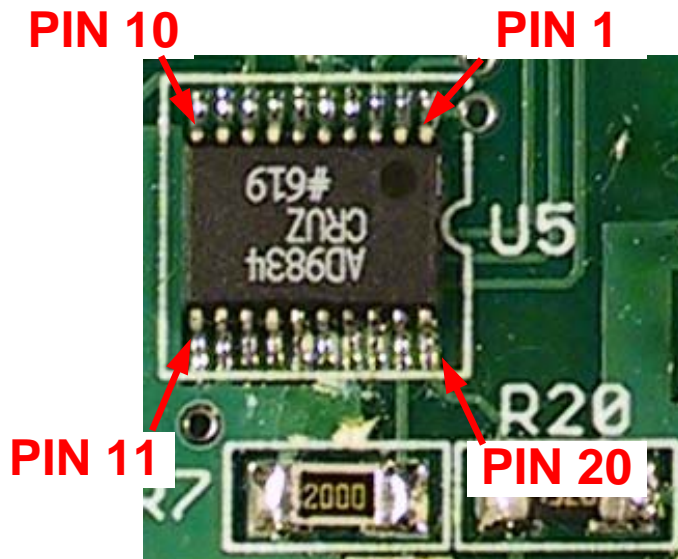

Figure 18. U5 Installation
- Remove U5, AD9834CRUZ, from its protective cover, being careful not to bend the leads. If they are inadvertently bent, use a hobby knife or other fine-point tool to straighten them. This is the most challenging component to install, and it was saved for last to give you experience with the other ICs. Refer to **Figure 18**. If you have liquid flux, apply a coating to the U5 pads.
- ❑ Inspect your work very carefully. If there is a solder bridge, clear it using the solder wick. Apply a small amount of solder to each pin and reinspect. Allow the chip to cool before attempting to correct bridges. Make sure the pins are soldered to the pads. Looks can be deceiving. If in doubt, reheat the joint. The soldering should resemble **Figure 18** when you are done. There is a continuous bead of solder from the pin down to the pad. Liquid flux was used here to permit the free flow of solder. Use alcohol or acetone to remove the excess flux after soldering.